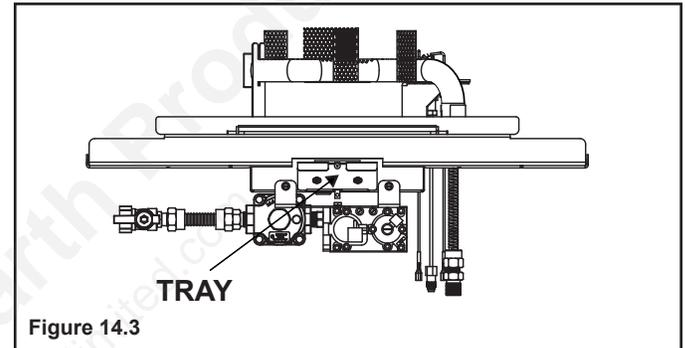

Figure 14.3
- Pull out the tray that houses the light bulb. See Figure 14.3.